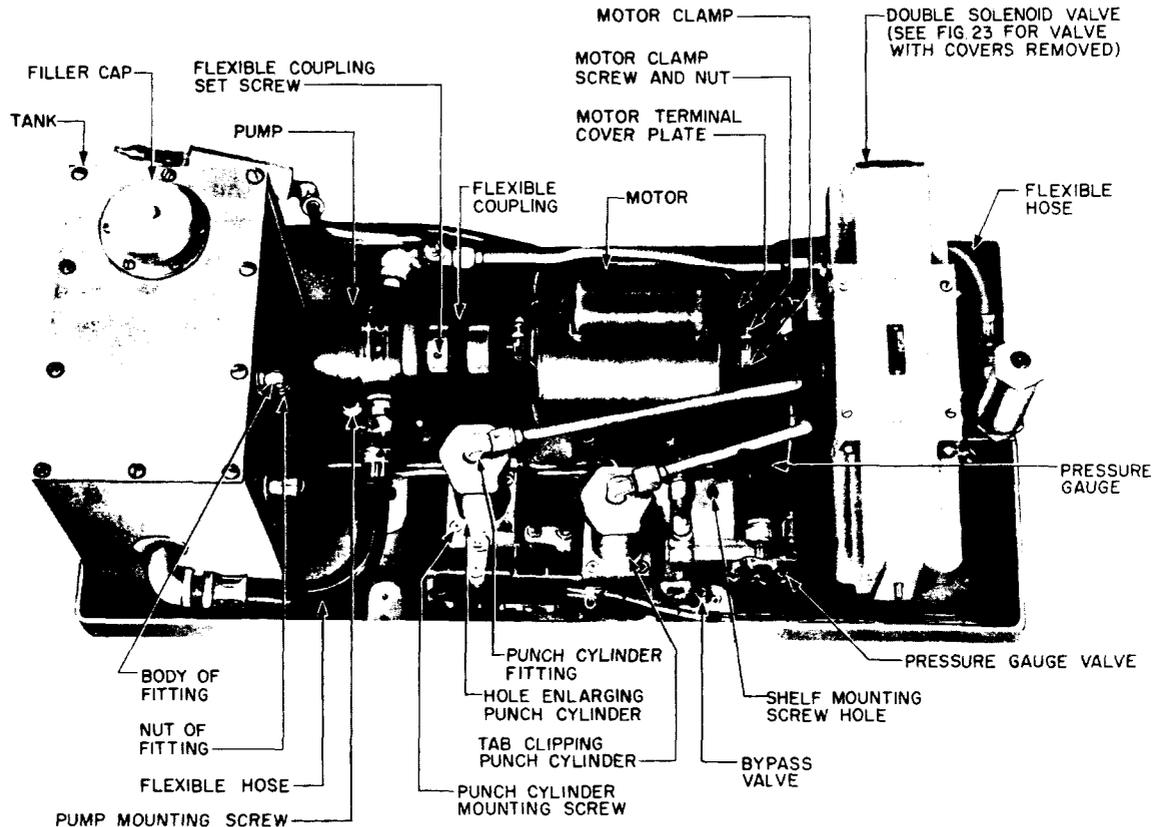

Fig. 20 – Hydraulic Shelf Assembly
3.18 Punch Cylinders: Fig. 20
3.25 Bypass Valve: Fig. 20
(1) To replace the bypass valve, completely drain the tank as covered in 3.06. Remove the manifold block on which the valve is mounted as follows. Place a folded KS-14666 cloth on the hydraulic shelf below the connections to the valve and the manifold block to catch any oil which may drip when the connections are broken. Disengage the connections to the valve and to the block by holding the body of the fitting with the R-1542 wrench and unscrew the nut of the fitting with a second R-1542 wrench. Remove the manifold block bracket mounting screw using the proper size Allen wrench. Remove the manifold block, carefully disengaging the tubing.
(2) Transfer the fitting from the top of the valve being replaced to the corresponding position on the new valve using the R-1542 wrenches. With the KS-14164 brush, apply a small amount of KS-6824 sealing compound to the threads of the fitting that screw into the valve, taking care to keep the compound away from the end of the fitting to avoid getting it into the hydraulic system. Remove the valve from the manifold block using the wrenches. If the short threaded nipple remains in the base of the valve, mount a new nipple in the new valve using fine lampwick and KS-6824 sealing compound on the threads as follows. Starting at approximately the middle of the nipple, wind fine lampwick between the threads clockwise toward one end of the nipple, crossing a thread upon completion of each turn. The first turn should be double to secure the starting end of the lampwick and the last turn should terminate at approximately the beginning of the second thread from the outer end. Similarly wind lampwick between the threads at the other end of the nipple. Then apply KS-6824 sealing compound over the lampwick as covered above. Never remove and re-use the old nipple as leakage may be introduced due to damaging of the threads during removal. Mount the new valve on the manifold block and position the block on the shelf. Reconnect the tubing to the respective fittings and securely tighten the manifold block bracket mounting screw.
3.26 Pressure Gauge: Fig. 20 — To replace the pressure gauge, make sure that the pressure-gauge cut-off valve is fully closed. Then
3.27 Pressure-Gauge Valve: Fig. 20 — To replace the pressure-gauge valve, partially drain the tank as covered in 3.06. Then, remove the pressure gauge as covered in 3.26. Remove the valve with the R-1542 wrench while holding the pipe on which it is mounted with the R-1538 wrench. Apply a small amount of KS-6824 sealing compound to the threads of the pipe before mounting the new gauge, exercising care to keep the compound away from the end of the threaded portion to avoid getting it in the hydraulic system. Mount the new valve with its handle facing the front of the table. Remount the pressure gauge as covered in 3.26.
3.33 Motor: Fig. 20
3.34 Flexible Coupling: Fig. 20 — To replace the flexible coupling, first remove the motor as covered in 3.33, but do not disconnect the leads at the motor terminals. Then, slide the driving member of the coupling off the motor shaft. Loosen the setscrew on the driven member of the coupling using the proper size Allen wrench and slide it off the pump shaft. Separate the new coupling, leaving the nonmetallic member which is mounted between the coupling halves on the half to be mounted on the pump shaft. Mount this half of the coupling on the pump shaft and position it with the surface against which the nonmetallic member is mounted, flush or slightly overflush with the end of the pump shaft. Securely tighten the setscrew against the flat on the shaft. Mount the other half of the coupling on the motor shaft. Remount the motor as covered in 3.33 and connect the coupling. Securely tighten the coupling setscrew of the driving member against the flat on the motor shaft.
3.35 Pump: Fig. 20
3.36 Flexible Hoses: Fig. 20